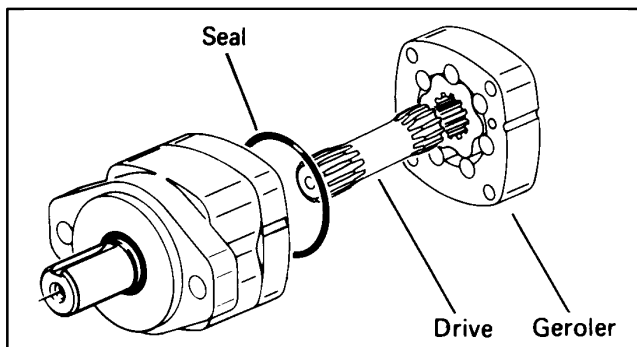

Figure 75
15. Remove the 3[76] diameter seal from wear plate, see Fig. 75.